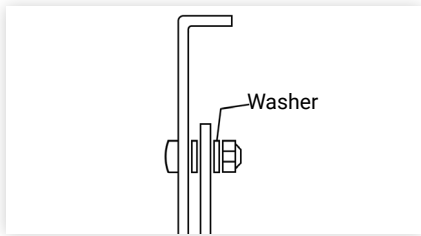

figure 7
- c) Fold out the arm with the bolt, washers and nut attached. Remove the nut and feed the bolt through the 8mm hole in the end of the arm with the wire attached making sure one washer is between the arms and the other washer is next to the nylok nut (Figure 7). There is now some tension on the spring.